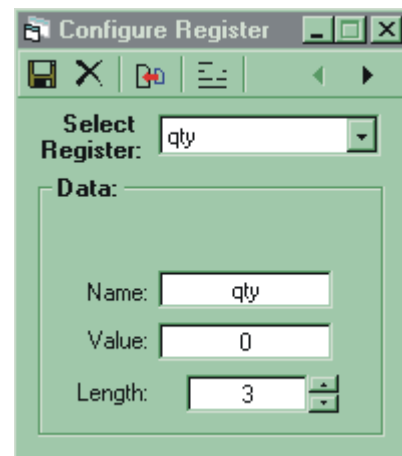

Figure 4.25: Screen 1 Quantity Register Setup
- 2] In the Configure Register dialog (figure 4.25), type “qty” in the “Name” box.